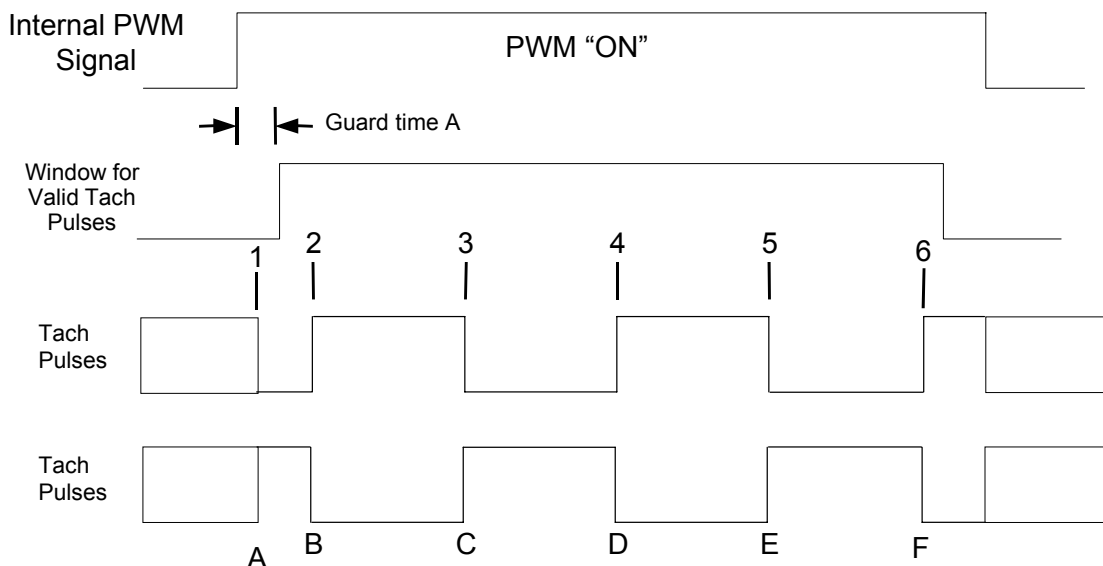

Figure 7.5 PWM and Tachometer Concept
7.1.4.4.1 ASSUMPTIONS (REFER TO FIGURE 7.5, "PWM AND TACHOMETER CONCEPT"):
The Tachometer pulse generates 5 transitions per fan revolution (i.e., two fan tachometer periods per revolution, edges 2→6). One half of a revolution (one tachometer period) is equivalent to three edges (2→4 or 3→5). One quarter of a revolution (one-half tachometer period) is equivalent to two edges. To obtain the fan speed, count the number of 90Khz pulses that occurs between 2 edges i.e., 2→3, between 3 edges i.e., 2→4, or between 5 edges, i.e. 2→6 (the case of 9 edges is not shown). The time from 1-2 occurs through the guard time and is not to be used. For the discussion below, an edge is a high-to-low or low-to-high transition (edges are numbered – refer to Figure 7.5, "PWM and Tachometer Concept").
- 2, 3, 5 or 9 “edges” to calculate the fan speed (Figure 7.5)
- Guard time A is programmable (8-63 clocks) to account for delays in the system (Figure 7.5)
As described in Assumptions \(refer to Figure 7.5, "PWM and Tachometer Concept"\): on page 41, the TACH detection circuitry expects a fan to deliver 5 TACH edges per full revolution. When measuring the fan speed using a PWM drive, the slowest fan speed that can be measured is dependent upon how long the PWM drive is high as well as how many edges are being counted to make a valid measurement.